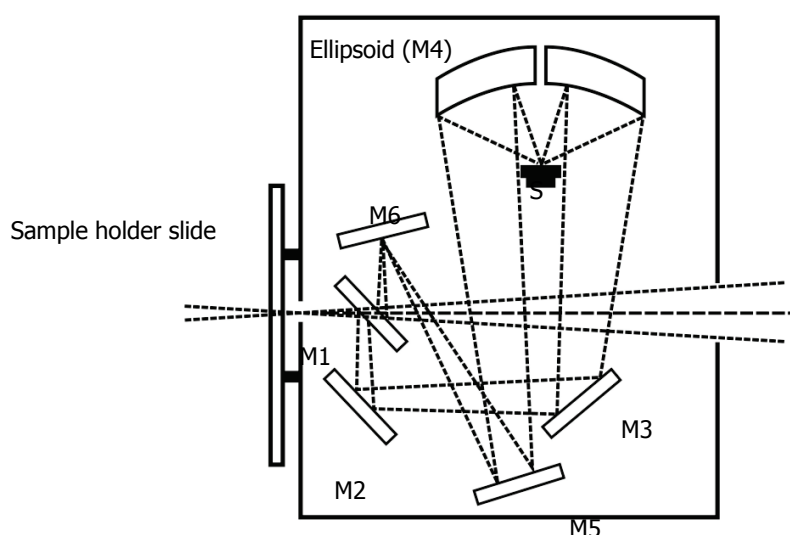

Figure 3 Optical diagram of the accessory; "M" and "S" represent mirror and sample, respectively
11. Adjust the top left mirror (mirror M6 in Figure 3) until you observe the output beam in against the paper on the right of the sample compartment.